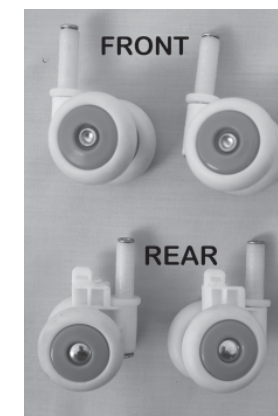

Fig. 5
1. The rear wheels differ from the front. rear wheels are designed not to swivel and have a raised plastic block which will slot into the main body of the walker. Fig. 5